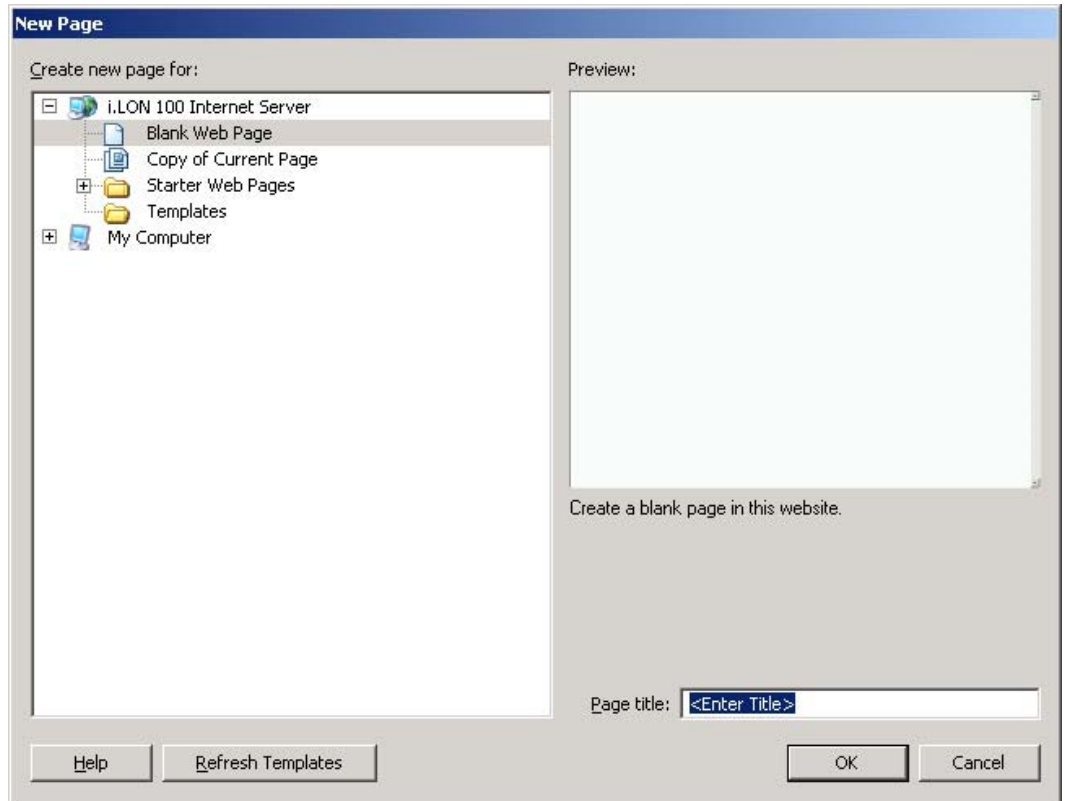

Figure 13.32 New Page Dialog
1. Click the **New Page** button on the Contribute toolbar. The window shown in Figure 13.32 opens.